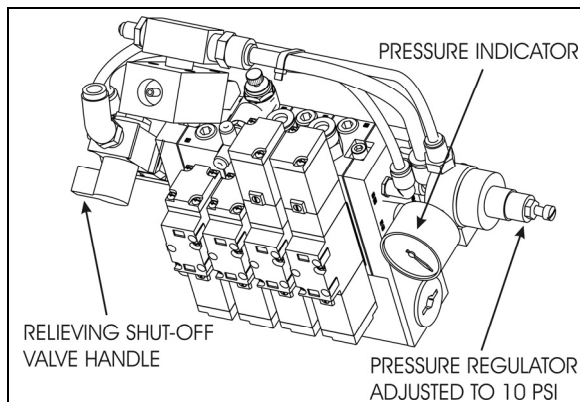

FIGURE 91: INFLATABLE SEAL RELIEVING SHUT-OFF VALVE
2. Deflate the inflatable seal by using the relieving shut-off valve located on the pneumatic component panel (FIGURE 91).
3. Deflate the inflatable seal by using the relieving shut-off valve located on the pneumatic component panel (FIGURE 91). Turn the handle clockwise to deflate the seal. Make sure the pressure indicator reading is "0 psi".